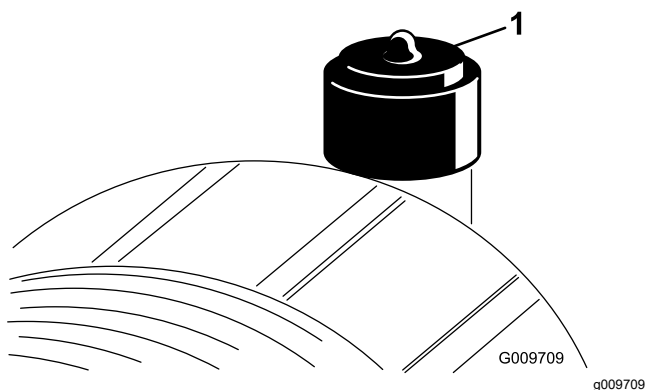

Figure 58
Service the air-cleaner filter only when the service indicator requires it (Figure 58). Changing the air filter before it is necessary only increases the chance of dirt entering the engine when you remove the filter.
2. Reset the indicator (Figure 58) if it shows red.